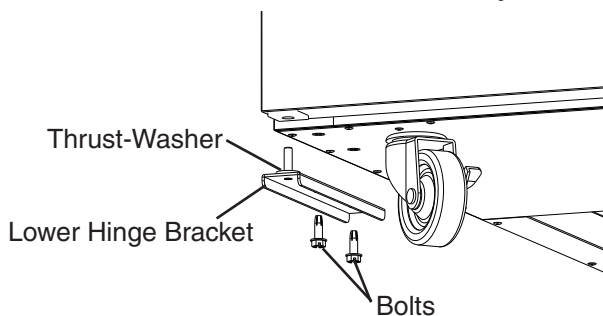

Fig. 11
- 11) Move the door into position and maintain a hold on the door. Make sure the thrust-washer is in place, then install the lower hinge bracket. Do not tighten the bolts yet. Start each bolt for a few threads only and leave loose. See Fig. 11.